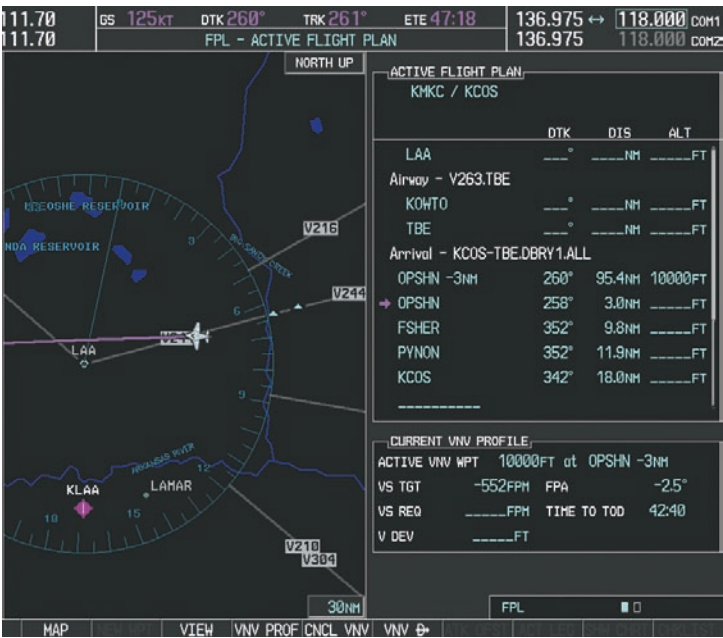

Figure 5-121 Direct-to Active
h) Press the **ENT** Key twice to activate the direct-to. Note, in Figure 5-121, the magenta arrow indicating the direct-to OPSHN after the offset waypoint for OPSHN. The preceding offset waypoint indicates the offset distance and altitude that were previously entered. The remaining waypoints in the loaded arrival procedure have no database specified altitudes, therefore, dashes are displayed. Keep the CDI centered and maintain a track along the magenta line to OPSHN.